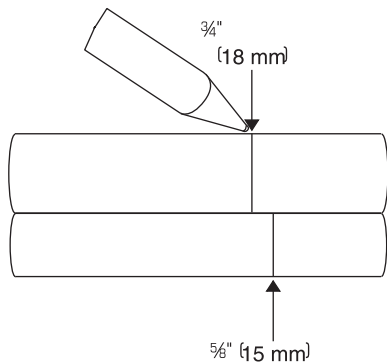

Fig. 18
1. a) Lay the RED and GREEN tubes on the top of the diagram, and lay the BLUE tube on the bottom. Use a pen to mark them at the arrows (Fig. 18).
- b) Use a ruler or lay the tube from the cold water supply on the top of the diagram and mark a line at 3/4" (18mm) or at the arrow (Fig. 18).